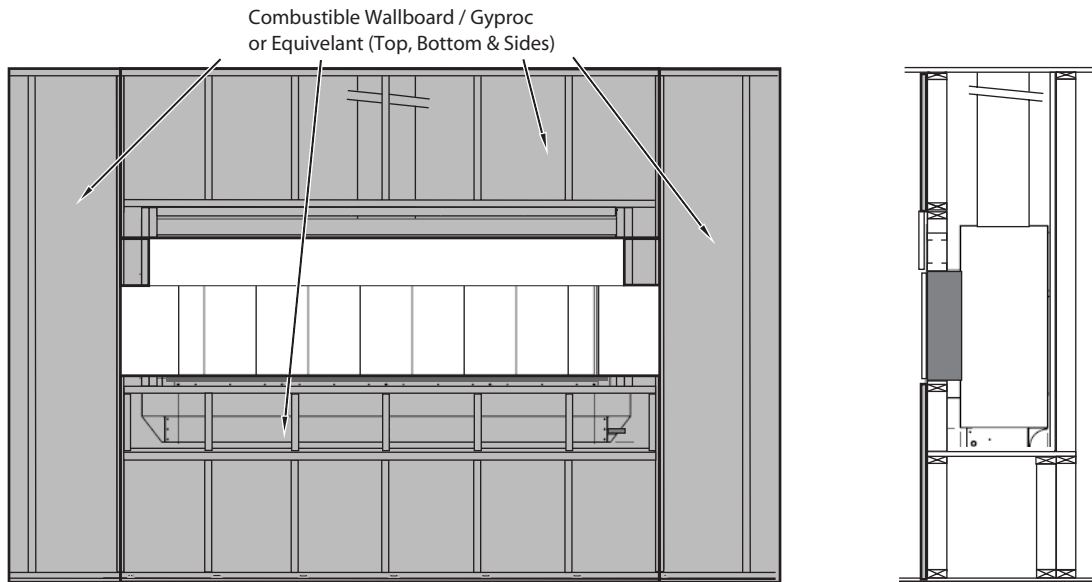

Figure 2d. Fireplace installation (Cut the remainder of Gyproc / Wall board to complete the fireplace surrounds) Both Sides are Typical.
**Step 5.** As shown in Figure 2d; Cut standard Gyproc / Drywall board to complete the installation of Both surrounds. Fit the edges of the board to the rim around both fireplace